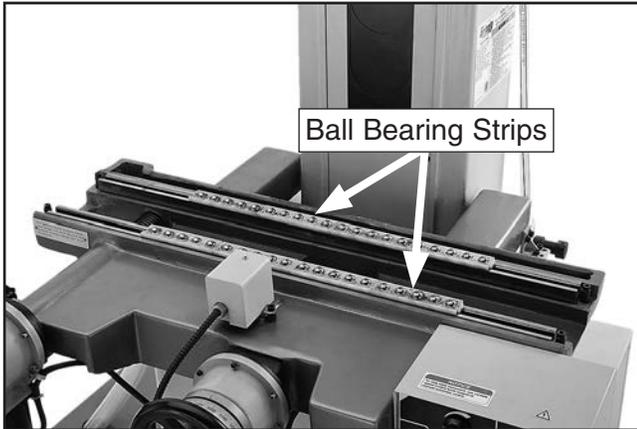

Figure 16. Ball bearing strips positioned on saddle ways.
8. Position ball bearing strips in middle of saddle ways, as shown in **Figure 16**.